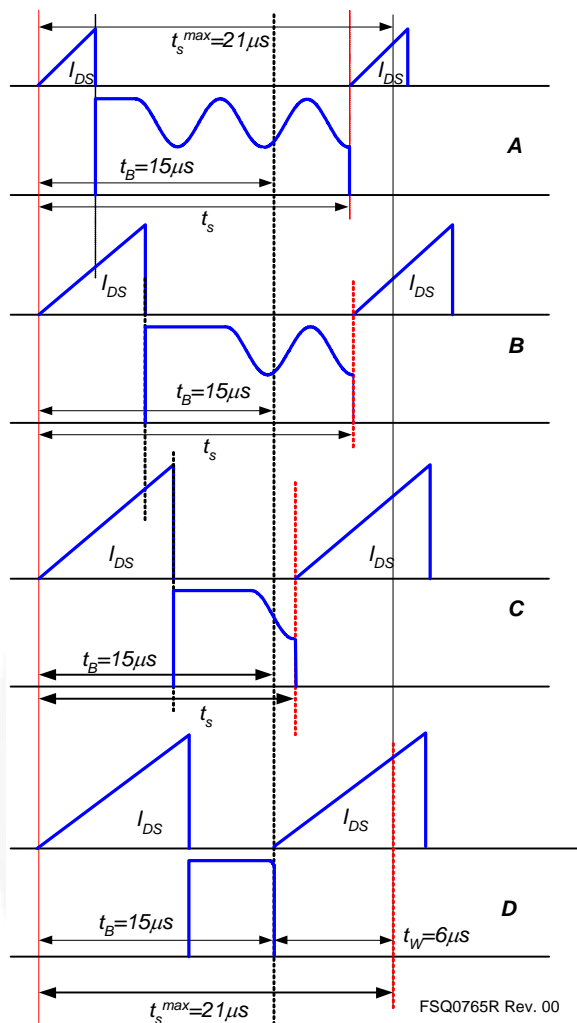

**Figure 33. Waveforms of Burst Operation**
**6. Burst Operation:** To minimize power dissipation in standby mode, the FPS enters burst-mode operation. As the load decreases, the feedback voltage decreases. As shown in Figure 33, the device automatically enters burst-mode when the feedback voltage drops below  $V_{BURL}$  (350mV). At this point, switching stops and the output voltages start to drop at a rate dependent on standby current load. This causes the feedback voltage to rise. Once it passes  $V_{BURH}$  (550mV), switching resumes. The feedback voltage then falls and the process repeats. Burst-mode operation alternately enables and disables switching of the power SenseFET, thereby reducing switching loss in standby mode.